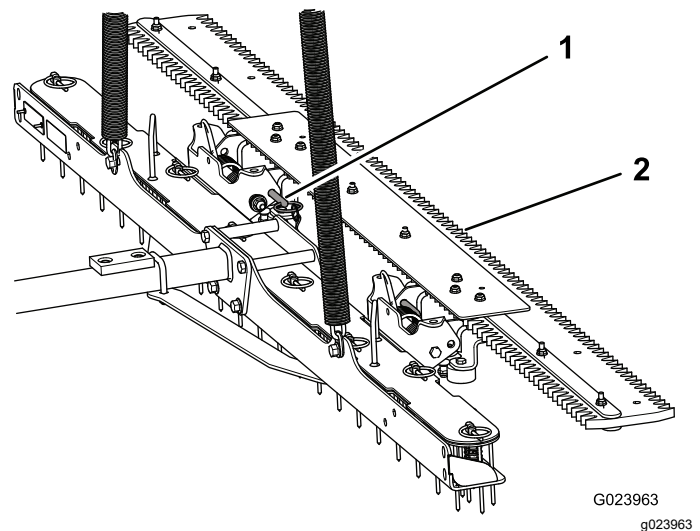

Figure 16
1. Remove the clevis pins (Figure 16).